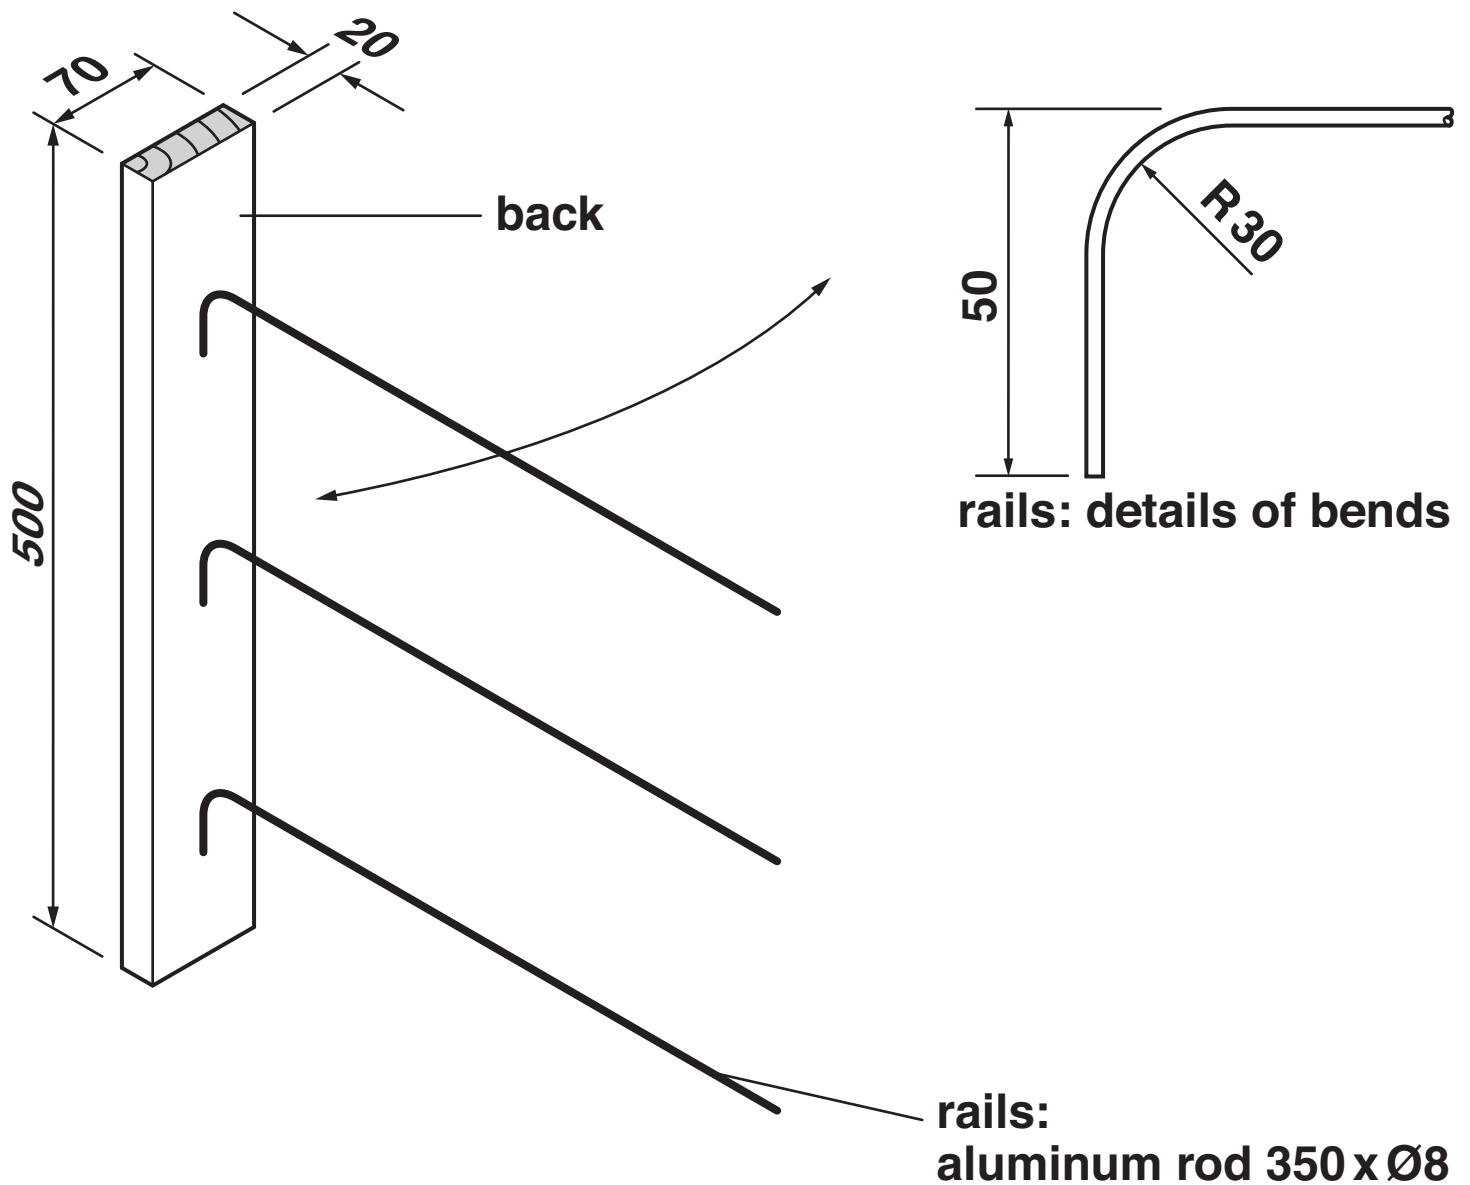

Fig. 6
- 4 Fig. 6 shows an incomplete design for a wall mounted tea towel holder.